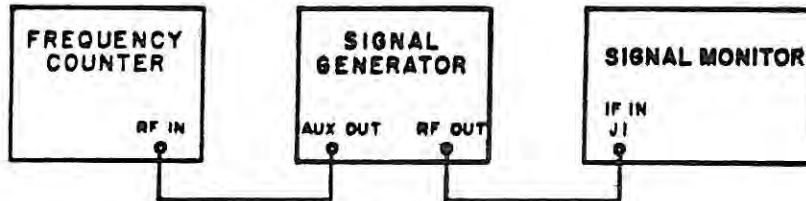

Figure A-9. Test Setup, Sweep Oscillator and Frequency Linearity Adjustments
- (1) Connect the equipment as shown in Figure A-9, and set the signal generator output to a low level until a marker is required.